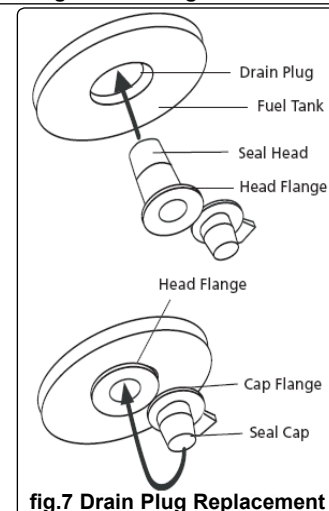

fig.7 Drain Plug Replacement
- 6.2.2** Replace the seal head back into the drain hole and push the plug grip into the seal head to lock into position see fig.7.